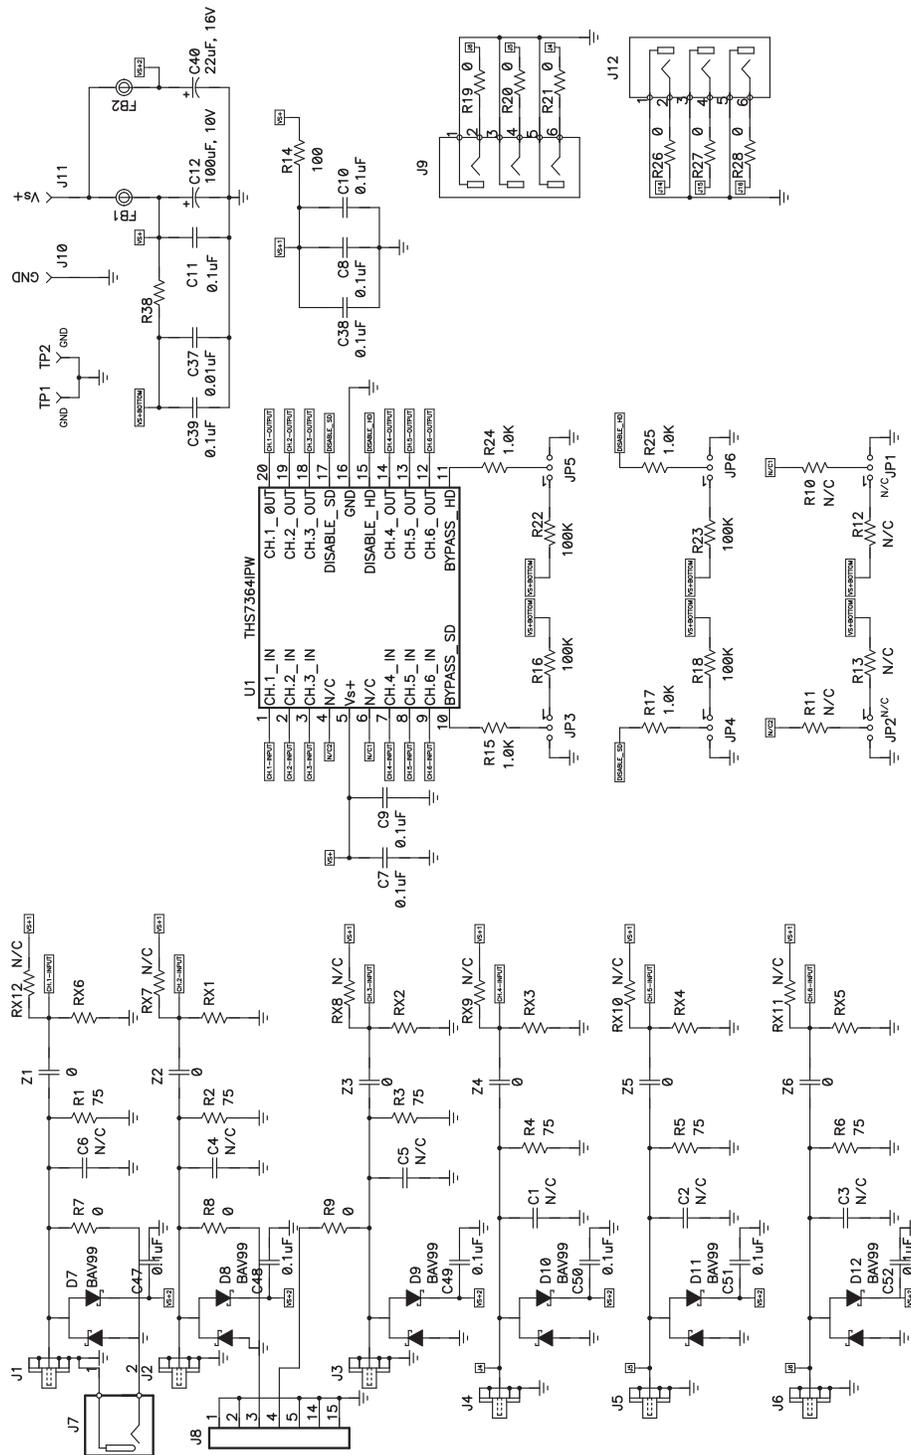
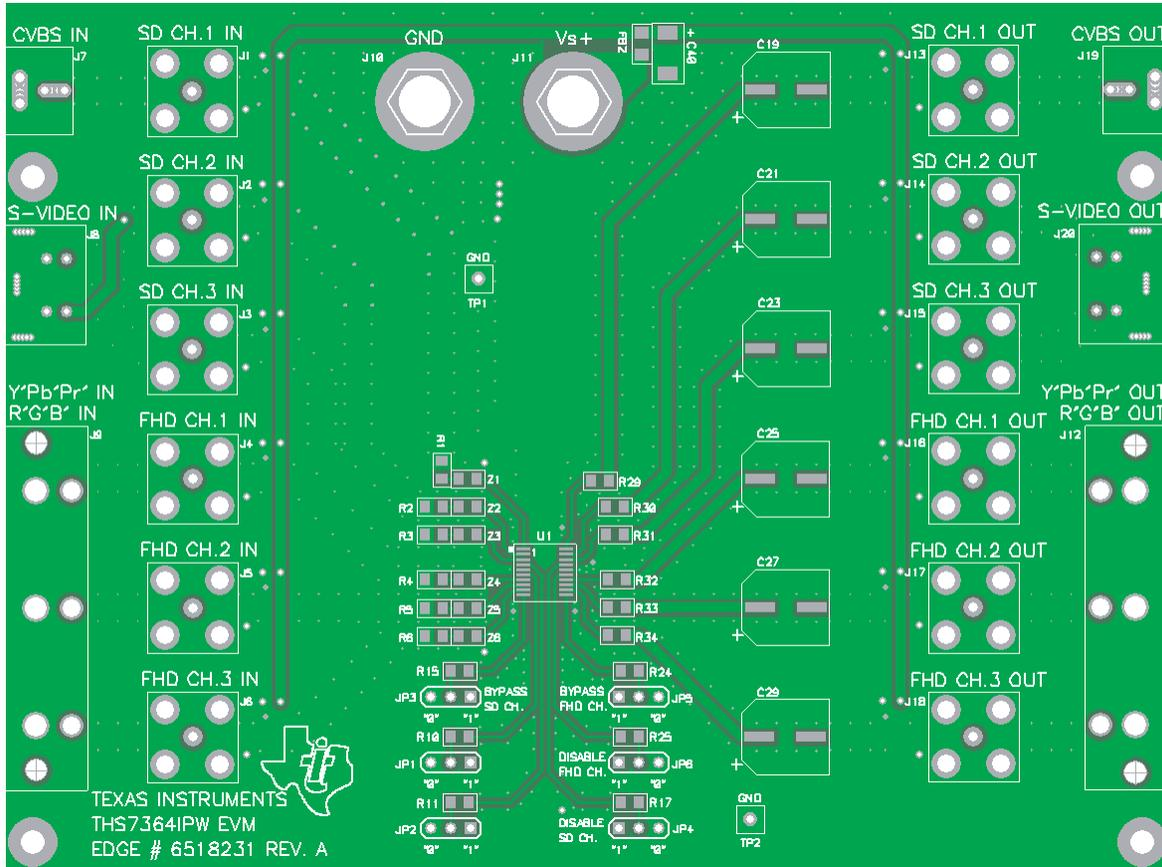
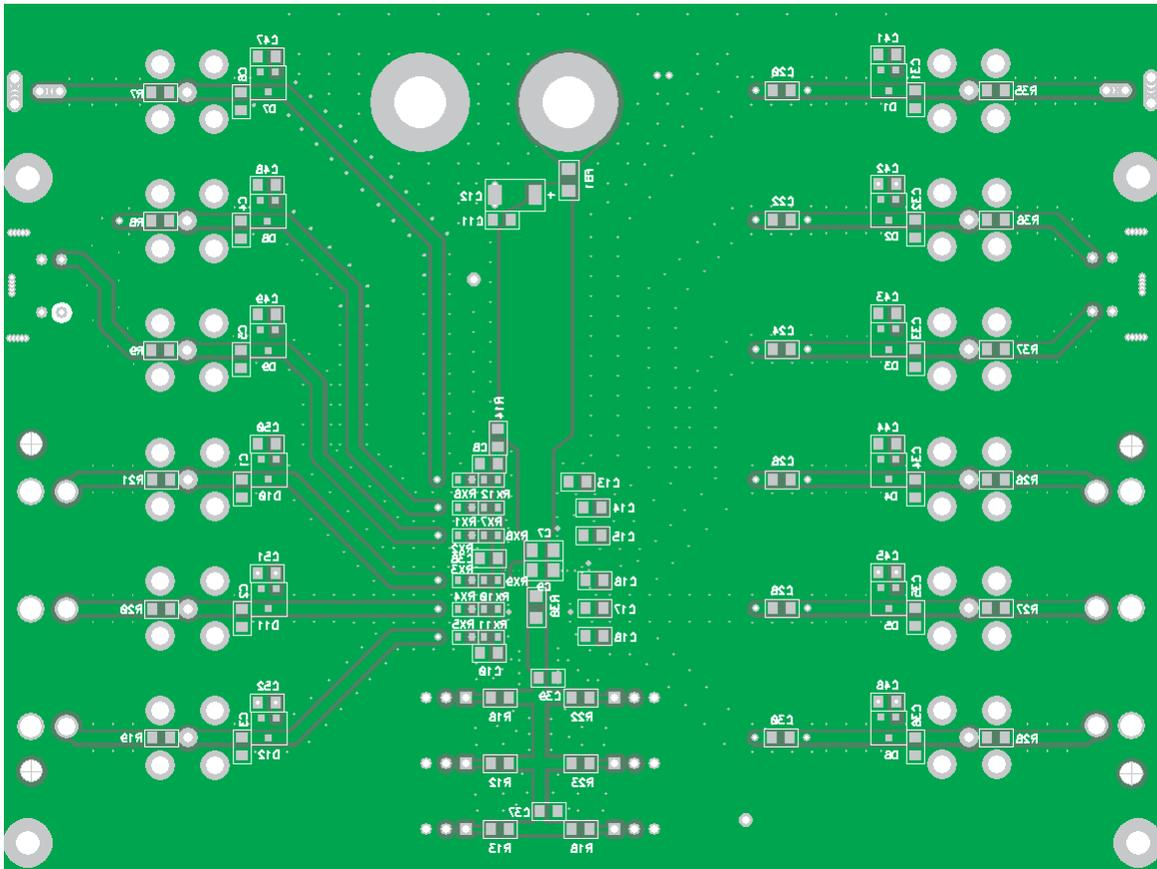

Figure 83. THS7364EVM Schematic
Figure 84. THS7364EVM PCB Top Layer
Figure 85. THS7364EVM PCB Bottom Layer
**Figure 83** shows the THS7364EVM schematic. **Figure 84** and **Figure 85** illustrate the two layers of the EVM PCB, incorporating standard high-speed layout practices. **Table 5** lists the bill of materials as the board comes supplied from Texas Instruments.